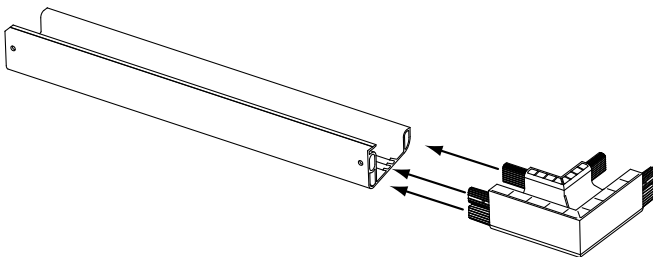

Figure 1
- ① Clean area and place frame assembly pieces face down. Snap plastic corner pieces into ends of aluminum frame extrusions as indicated in Figures 1 through 4.